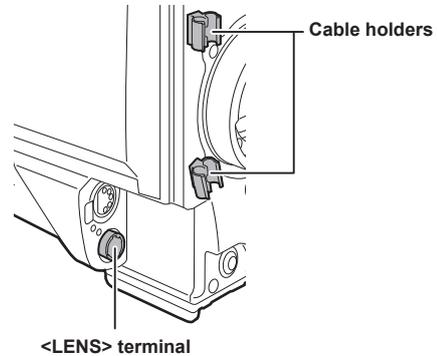

Fig. 4
- 4** Secure the cable through the cable holder and connect it to the <LENS> terminal. (Fig. 4)